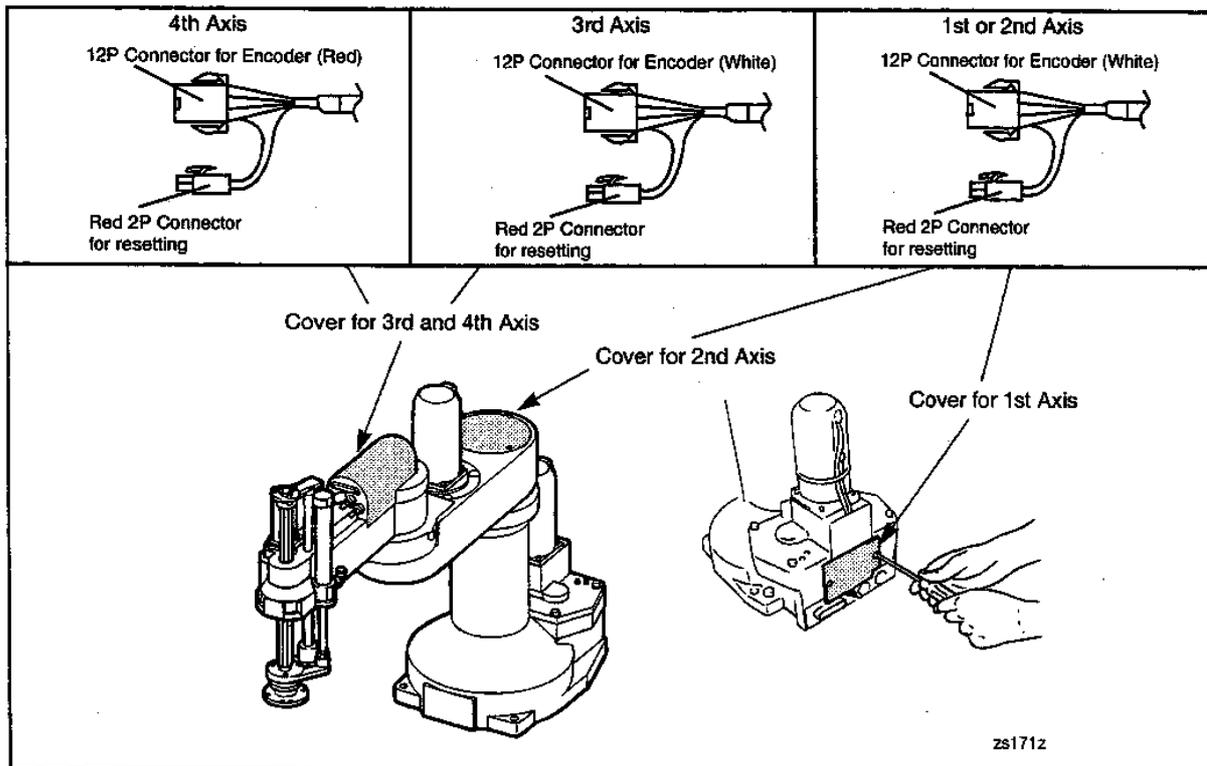

Figure 6-4 Location of the Red 2P Connector
- (2) Turn the controller power off.
- (3) Remove the cover as shown in Figure 6-4.
- (4) Take out the red 2P connector of the specified axis to be reset.